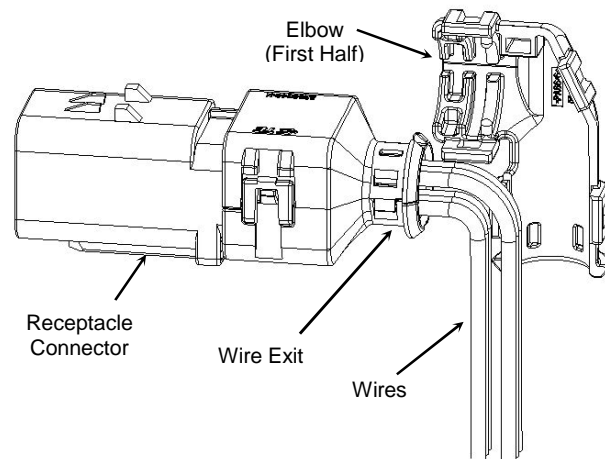

Figure 16
2. Align the assembled backshell and the first elbow piece as shown in Figure 16.